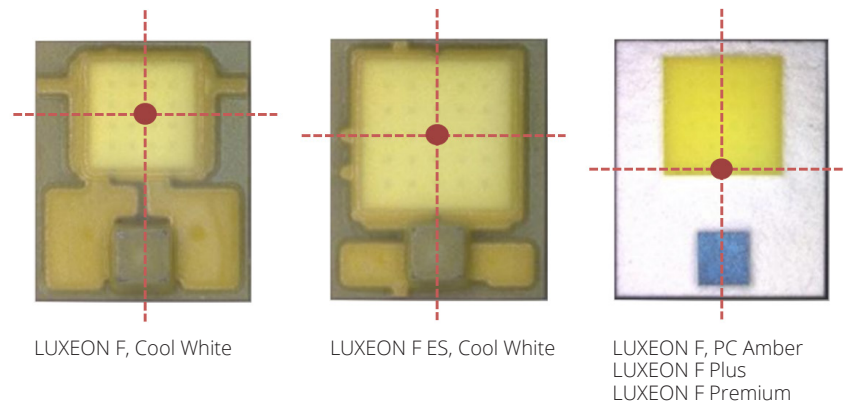

Figure 18. Pick-up area of LUXEON F.
- The pick-up areas are defined in Figure 18.
Pickup Point X	See figure 18